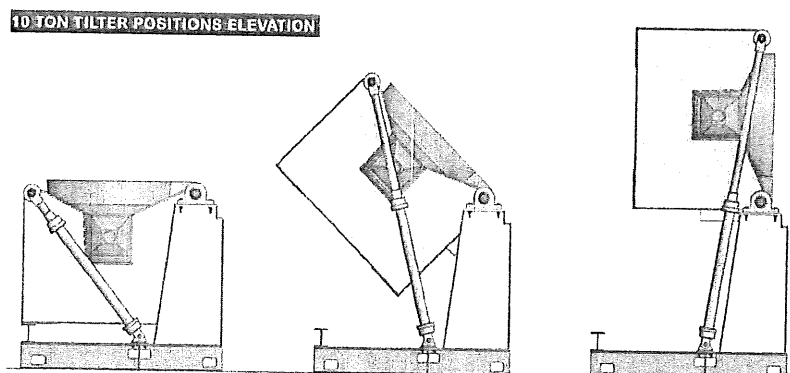

Figure 5
- b) When the hydraulic power pack is turned on, the double acting cylinder of a 10-ton ladle tilter can be elevated to the three desired positions as illustrated in Figure 5. The ladle tilter is used to pour the mixing cement to another container after the mixing process is done. The speed of the cylinder also can be controllable. Sketch a hydraulic circuit diagram for the application. (10 marks)